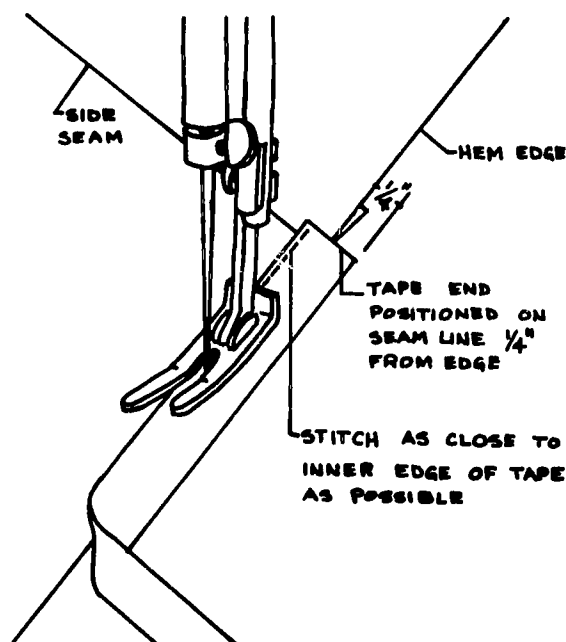

Figure 12.
10. Stitch the tape to the hem, sewing close to the inner edge of the tape (see Figure 12).